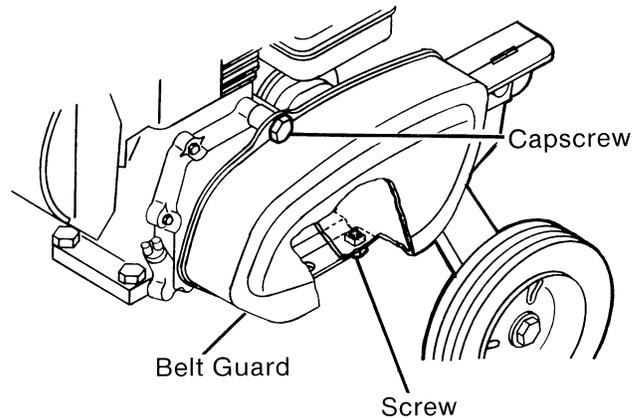

FIG. 11
- C. Remove belt guard from tiller by removing capscrew at top of belt guard and screw under belt guard. (Fig. 11)
- A. Remove belt guard from tiller by removing cap screw at top of belt guard and screw under belt guard. (Fig. 11)